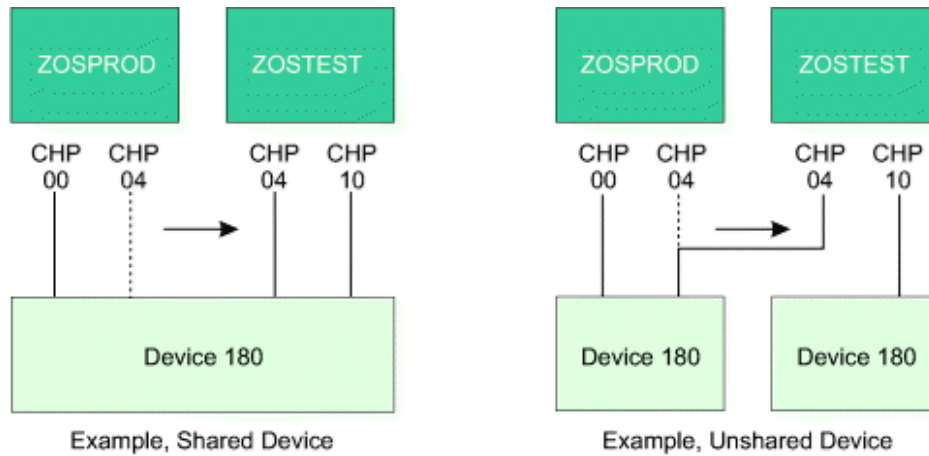

Figure 19. Two examples of duplicate device number conflicts
Figure 19 on page 53 provides two examples of duplicate device number conflict.
The following example shows the IOCP statement for Figure 19 on page 53. Both examples use identical IOCP statements.
In Figure 19 on page 53, ZOSTEST can access device 180 only through channel path 10 if the operator takes no action in response to the conflict message.
1. Configure offline the original channel path (CHP 10 in Figure 19 on page 53).
2. Configure offline and then online the reassigned channel path (CHP 04 in Figure 19 on page 53).
3. If necessary, configure online the original channel path (CHP 10 in Figure 19 on page 53). Another conflict message is issued because a new conflict has been created. The operator then ignores this conflict as described in option A. (Access is still allowed to any non-conflicting devices on the original channel path.)
In Figure 19 on page 53, ZOSTEST can access device 180 only through channel path 04 if the preceding steps are performed in response to the conflict message.
In Figure 19 on page 53 (shared device), ZOSTEST can access device 180 through CHP 04 and CHP 10 if CHP 04 is defined to ZOSTEST in the IOCDS.
In Figure 19 on page 53 (unshared device), ZOSTEST can access either device 180 (unshared device) if one or both of the devices are assigned a new device number in the IOCDS.
In Figure 19 on page 53, if ZOSTEST is not active when CHP 04 is reassigned, or ZOSTEST is deactivated and then activated after CHP 04 is reassigned, ZOSTEST does not activate until the conflict over device 180 is resolved.